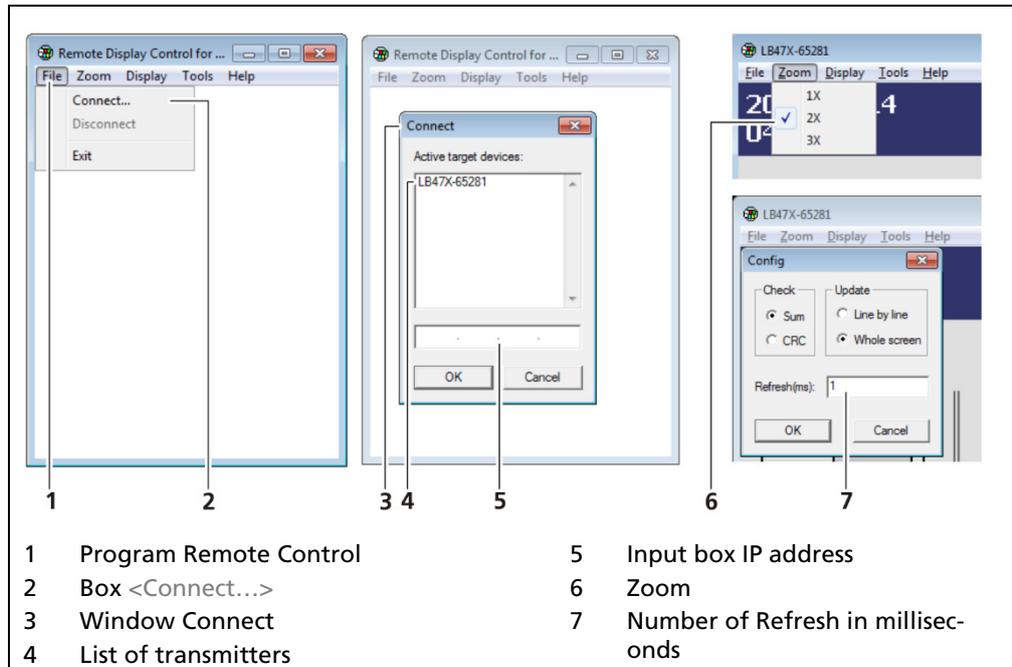

Fig. 50 Establishing connection to the EVU using the RC software
- The program starts (Fig. 50, item 1).
- Click on the <File> tab and then on <Connect...> (Fig. 50, item 2), to establish a connection to the EVU.
- A new window "Connect" is opened (Fig. 50, item 3) and the connected transmitters are listed.
- Click on the identifier of the transmitter (Fig. 50, item 4) or enter the IP address of the EVU in the input box (Fig. 50, item 5) (see Fig. 50, item 2).